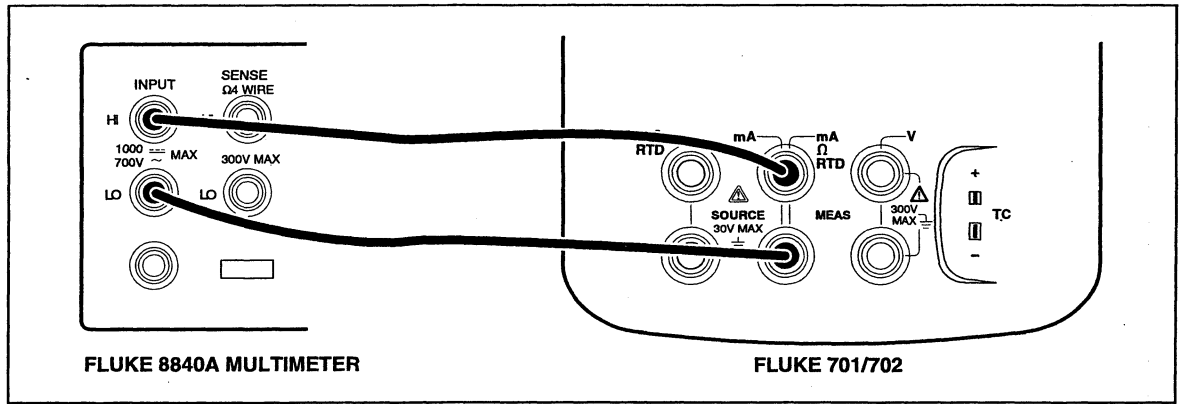

Figure 3-15. Loop Power Verification Connections
1. Connect the UUT to the 8840A DMM as shown in Figure 3-15.